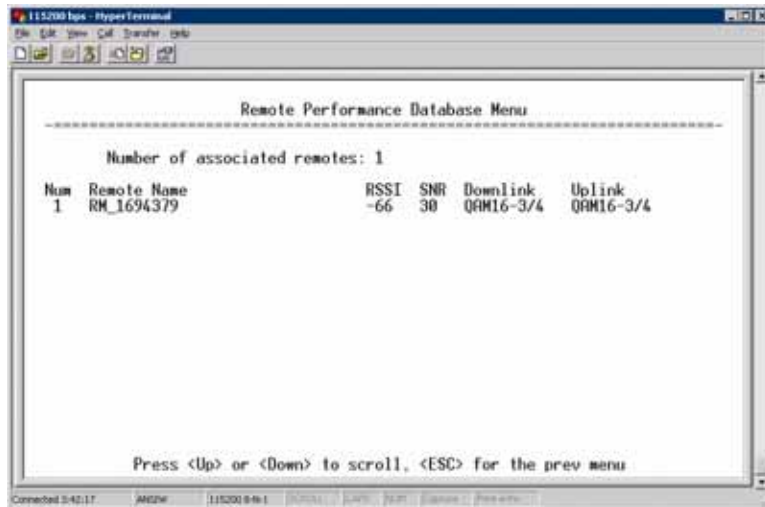

Figure 3-92. Remote Performance Database Menu
- **Remote Performance Database (AP Only)**—Displays a submenu where associated Remote performance data is listed in table form. Remotes are presented according to their number, MAC address, RSSI, SNR, modulation type, and FEC total. (See Figure 3-92 on Page 118.)